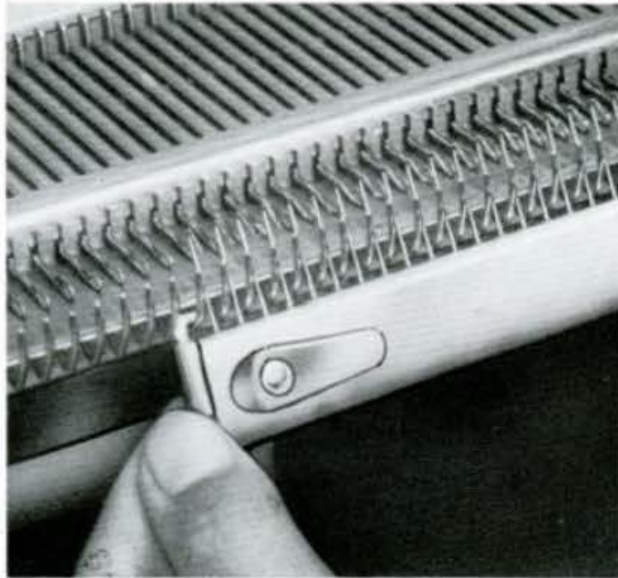

Fig. 23
The cast on comb should be use for both, the open edge and finished edge. To hand comb (see Fig. 23) select the large cast on comb for full width or close to full width knitting or the small comb for 100 stitches or less.
- a. With the single transfer tool, pick up the stitch and the unknitted thread and put them both on the empty needle. (See Fig. 23, 33)